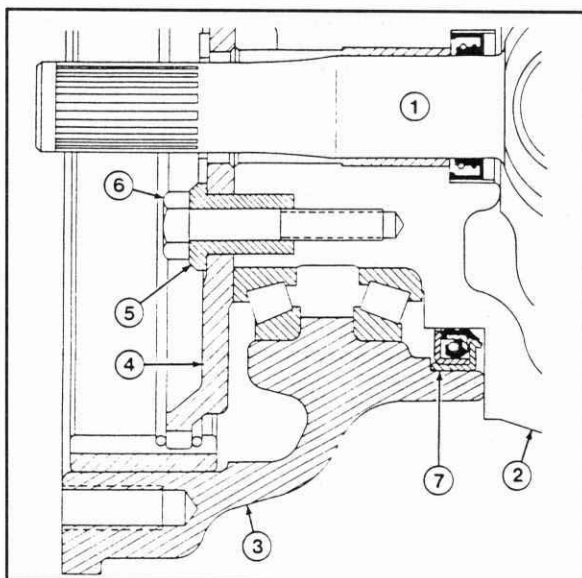

Figure 7-80
5. Examine the ring gear carrier to swivel hub locating bushings, Figure 7-80.